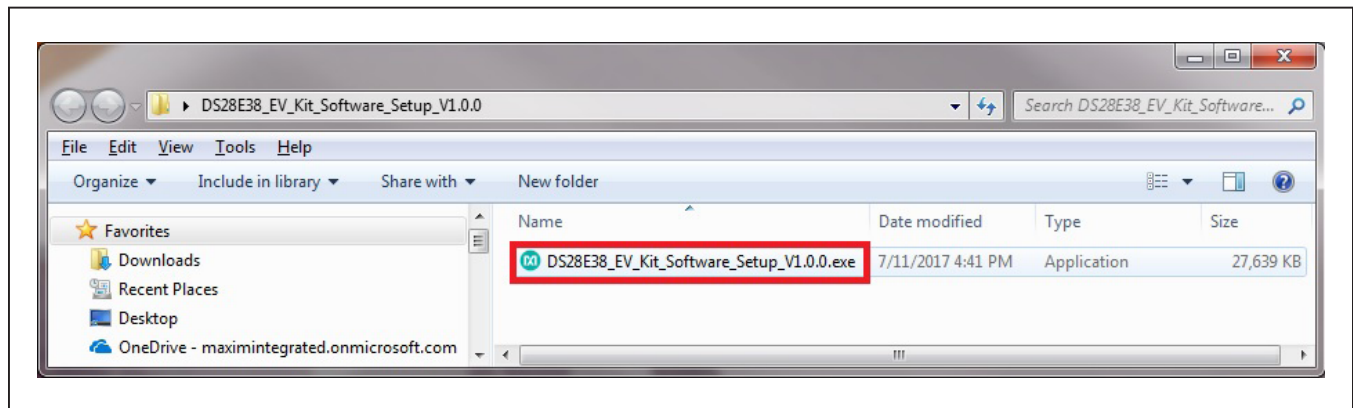

Figure 1. File Viewer
- 2) In a file viewer (Figure 1), double click on **DS28E38_EV_Kit_Software_Setup_V1.0.0.exe** to begin the installation.